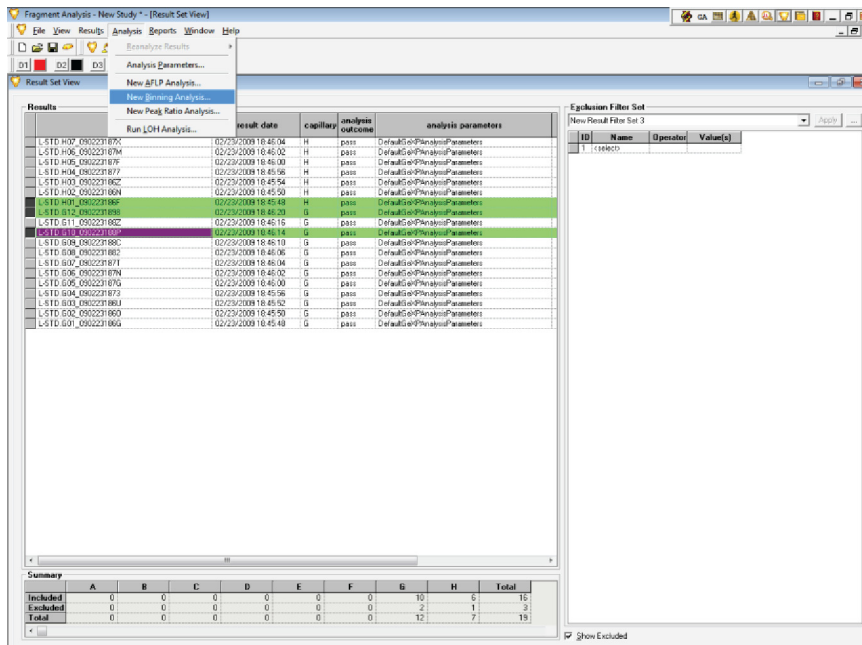

Figure 7.4 New Binning Analysis Selection
1. From the Analysis menu, select the “New Binning Analysis...” command. Refer to Figure 7.4.